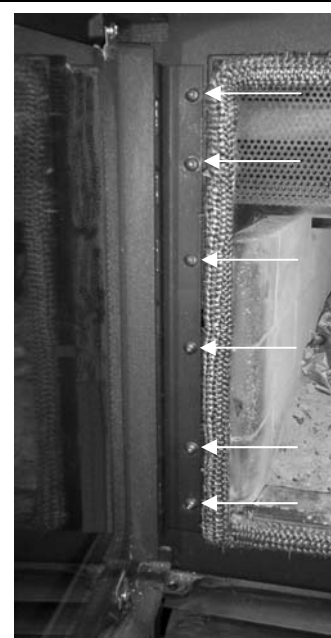

Figure 4 Hinge Adjustment on the Fireplace
5. If necessary, slightly loosen the screws holding the hinge to the fireplace facing (see Figure 4). Move the door with the hinge as desired. Retighten all the hinge screws on the fireplace.